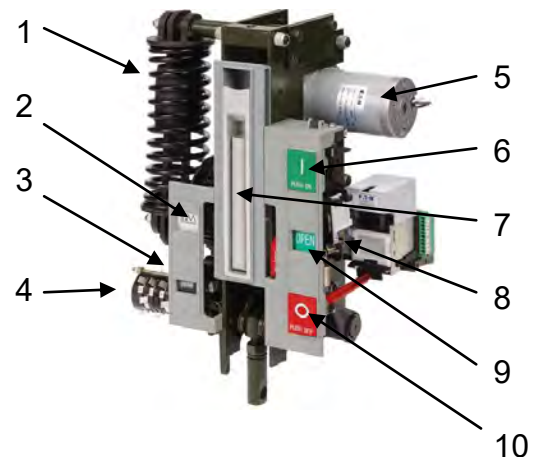

Fig. 6-2: Universal Mechanism Assembly (UMA)
W-VACi circuit breakers open and close primary circuits using Eaton vacuum interrupters (VI). The device used to open and close the VI is the Universal Mechanism Assembly (UMA). It is a modular assembly design. It is a self contained functional unit. All W-VACi circuit breakers are operated by a front mounted simple spring charged, stored energy mechanism (Figure 6-2). The stored energy mechanism is normally charged by an electric motor, but also can be charged manually with a charging handle.
The operating mechanism uses stored energy from the closing spring (Fig. 6-2). The closing unit has one shunt closing release and the opening unit is composed of one or more shunt opening release coil(s). Both have auxiliary switches and indicating devices which are all installed in the circuit breaker frame. Closing and opening buttons, the manual charging handle, spring charging state indicator, and closed/open indicators are all front accessible.